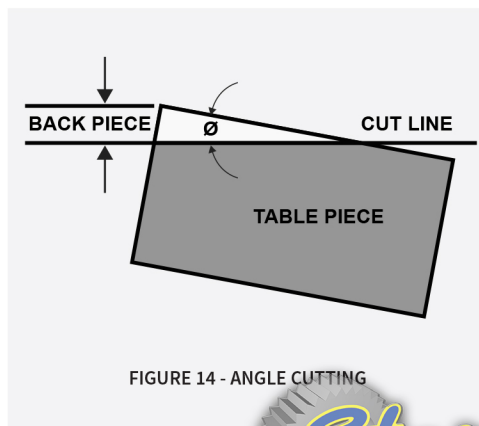

FIGURE 14 - ANGLE CUTTING
- Shallow angle cutting (see Figure 14).
Angle Cutting	When θ (see Figure 14) is less than 20° and the back piece runs out to less than 0.125" (3 mm) or one metal thickness - whichever is greater - problems may result. Shallow angles such as this may result in slivers which can cause rapid knife wear.